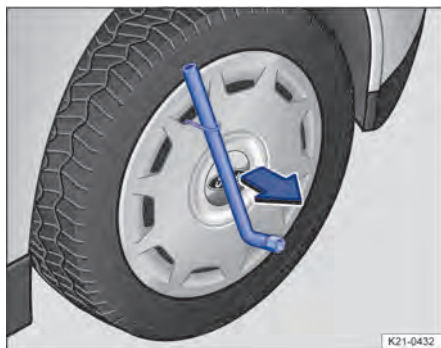

Fig. 224 Pulling off the wheel cover (illustration).
3. Use the puller to pull off the wheel cover in the direction of the arrow. If necessary, use a box spanner to remove the wheel cover → Fig. 224.